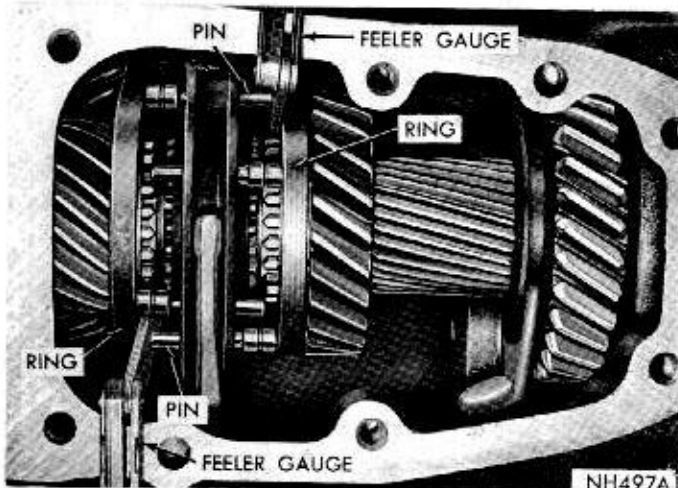

Fig. 16—Measuring Synchronizer "Float"
(3) The synchronizer "float" should be .060 to .117 inch, when measured between synchronizer outer ring pin and opposite synchronizer outer ring (Fig. 16). This measurement must be made on two pins, 180 degrees apart with equal gap on both ends for "float" determination.
(4) There should be a snug fit between pins and feeler gauges, similar to that obtained when measuring with a micrometer.